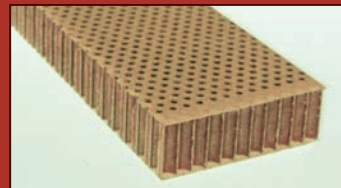

Fig. 5
- Process allows perforations to be made in laminated composite structures (composite applied to honeycomb core, Fig. 5).